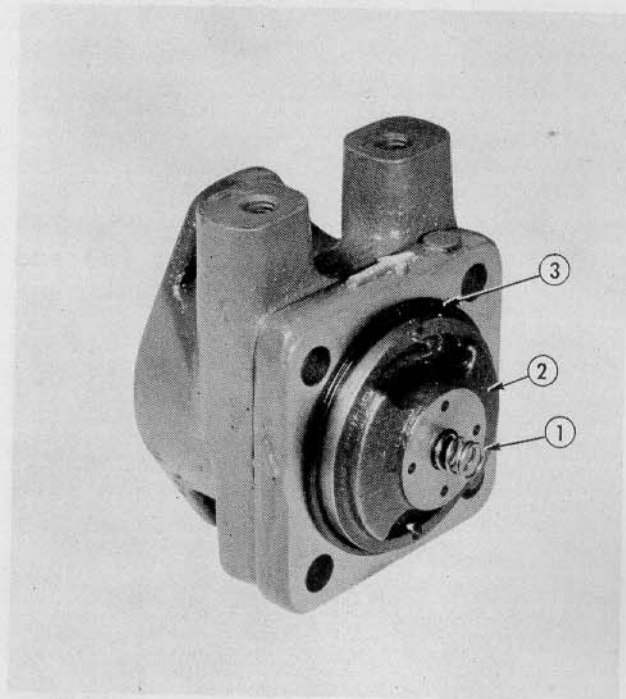

Fig. 29
Step 3—Remove the spring (1 — Fig. 29) pressure plate (2) and "O" ring seal (3).